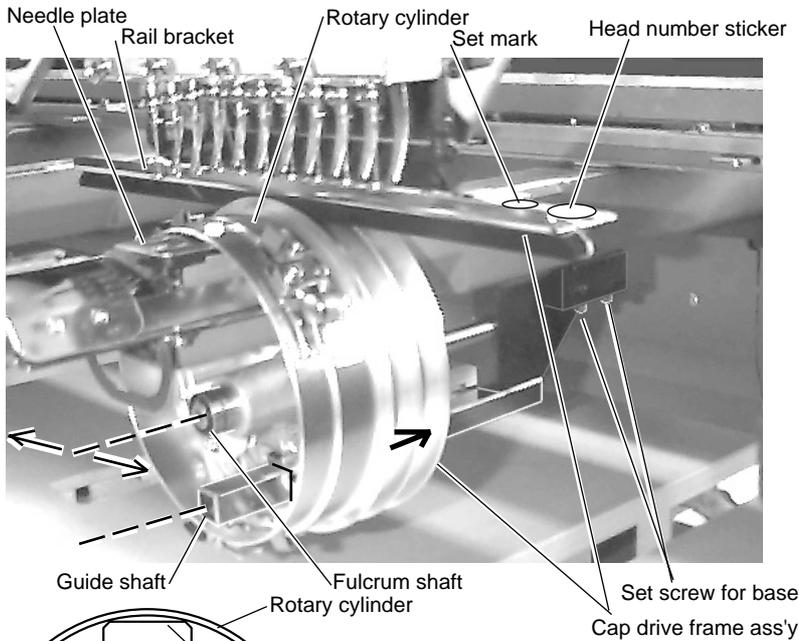

Fig. 1
1. As shown in Fig. 1, insert cap drive frame assembly with head number sticker labeled for respective head in fulcrum shaft and guide shaft.
2. As shown in Fig. 1, place cap drive frame assembly with set screw for base so that upper inside of rotary cylinder hits needle plate without producing gap.